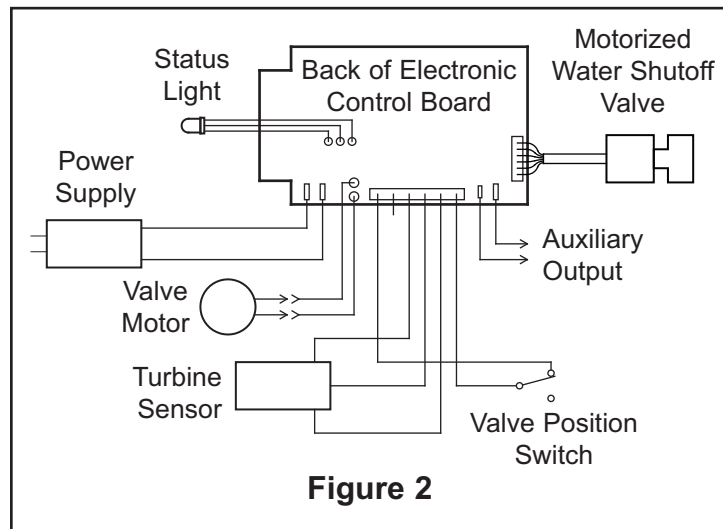

Figure 2
4. Unplug the wiring connections from the back of the old Electronic Control Board (See Figure 2) and remove the old board’s status light from its holder in the faceplate.
7. Reconnect the wiring to the new board (See Figure 2) and insert the new board’s status light into the holder in the faceplate.